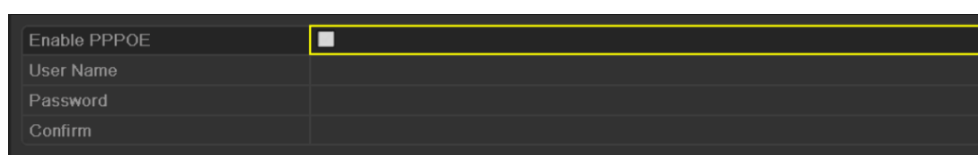

Figure 9. 3 PPPoE Settings Interface
2. Select the **PPPoE** tab to enter the PPPoE Settings interface, as shown in Figure 9. 3.